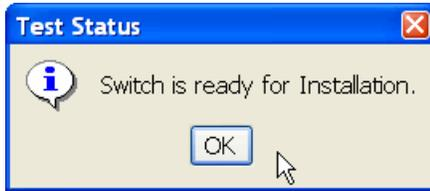

Figure 19 Connection tested
4. Plug in the cross-over cable as instructed and click the **Test Connection** button. Once the test is successful click **OK** in the pop-up box, as shown in Figure 19 on page 18.